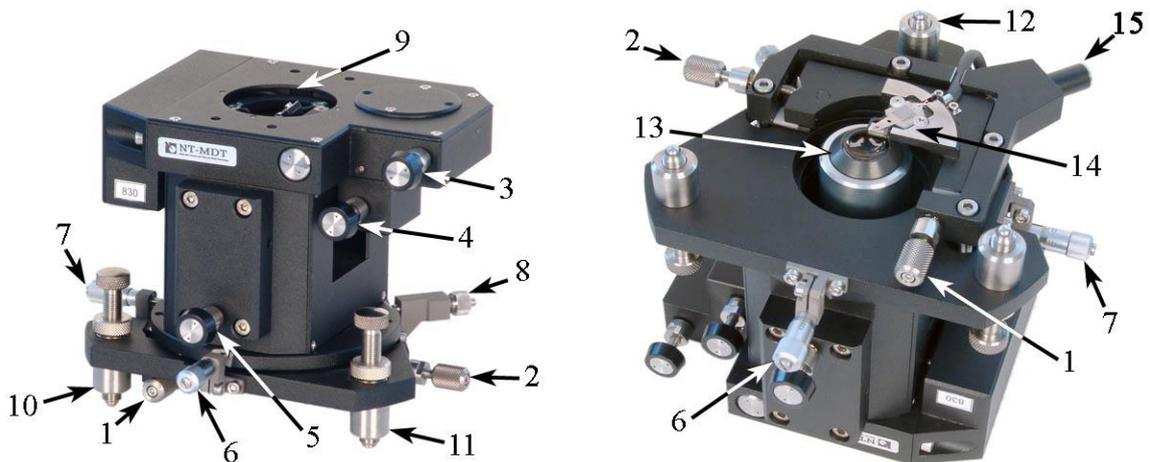

Fig. 2-6. Measuring head
Main components of the AFM optical measuring head are shown in Fig. 2-6.
The main functional component of the measuring head is the **Mitutoyo M Plan Apo 100** lens (pos. 13 in Fig. 2-6) . The numerical aperture of the lens is 0.7 and the focal length is 2 mm while the working distance is 6 mm. The lens provides the following options along with conventional AFM techniques: